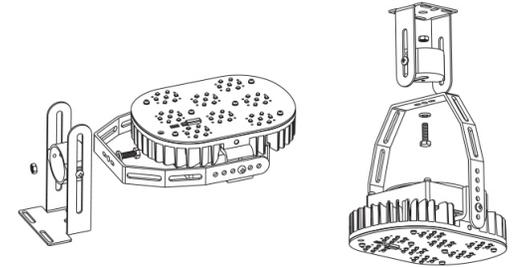

Fig. 2
2. Attach Mounting Bracket to U-Bracket using M6 Bolt, Nut, and Locking Washer. Do not tighten bolt (Fig. 2).